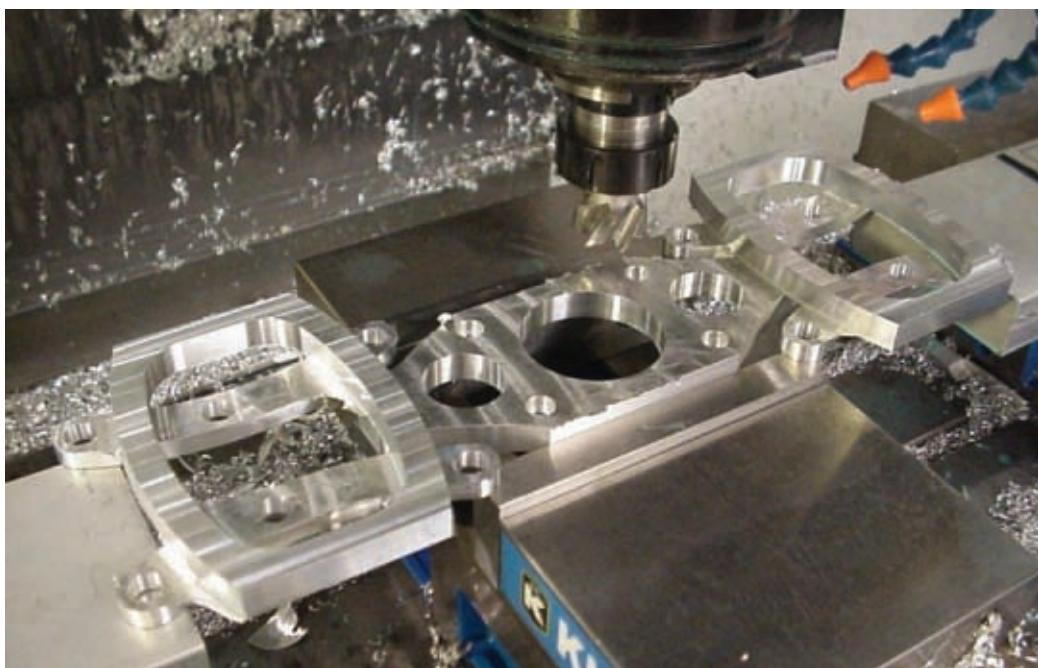

Figure 1-5 Try to plan jobs using the fewest setups possible.
4. Spend time visualizing. (see Fig. 1-5)